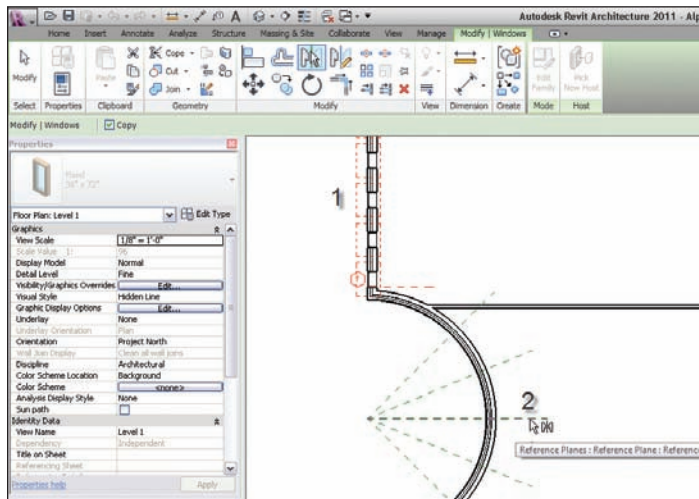

FIGURE 4.26 Select the Pick Lines icon from the Options bar. The line you are going to pick is the reference plane shown here.
4. Position your cursor over the center reference plane that is part of the radial array. When you pause, you will get a tooltip indicating that you are about to select the reference plane. When you see this tooltip, select the reference plane, as shown in Figure 4.26.